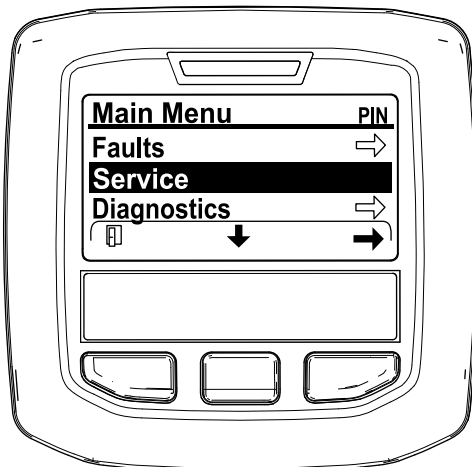

Figure 43
2. Navigate to the MAIN MENU, press the center button to scroll down to the SERVICE MENU, and press the right button to select the SERVICE option (Figure 43).